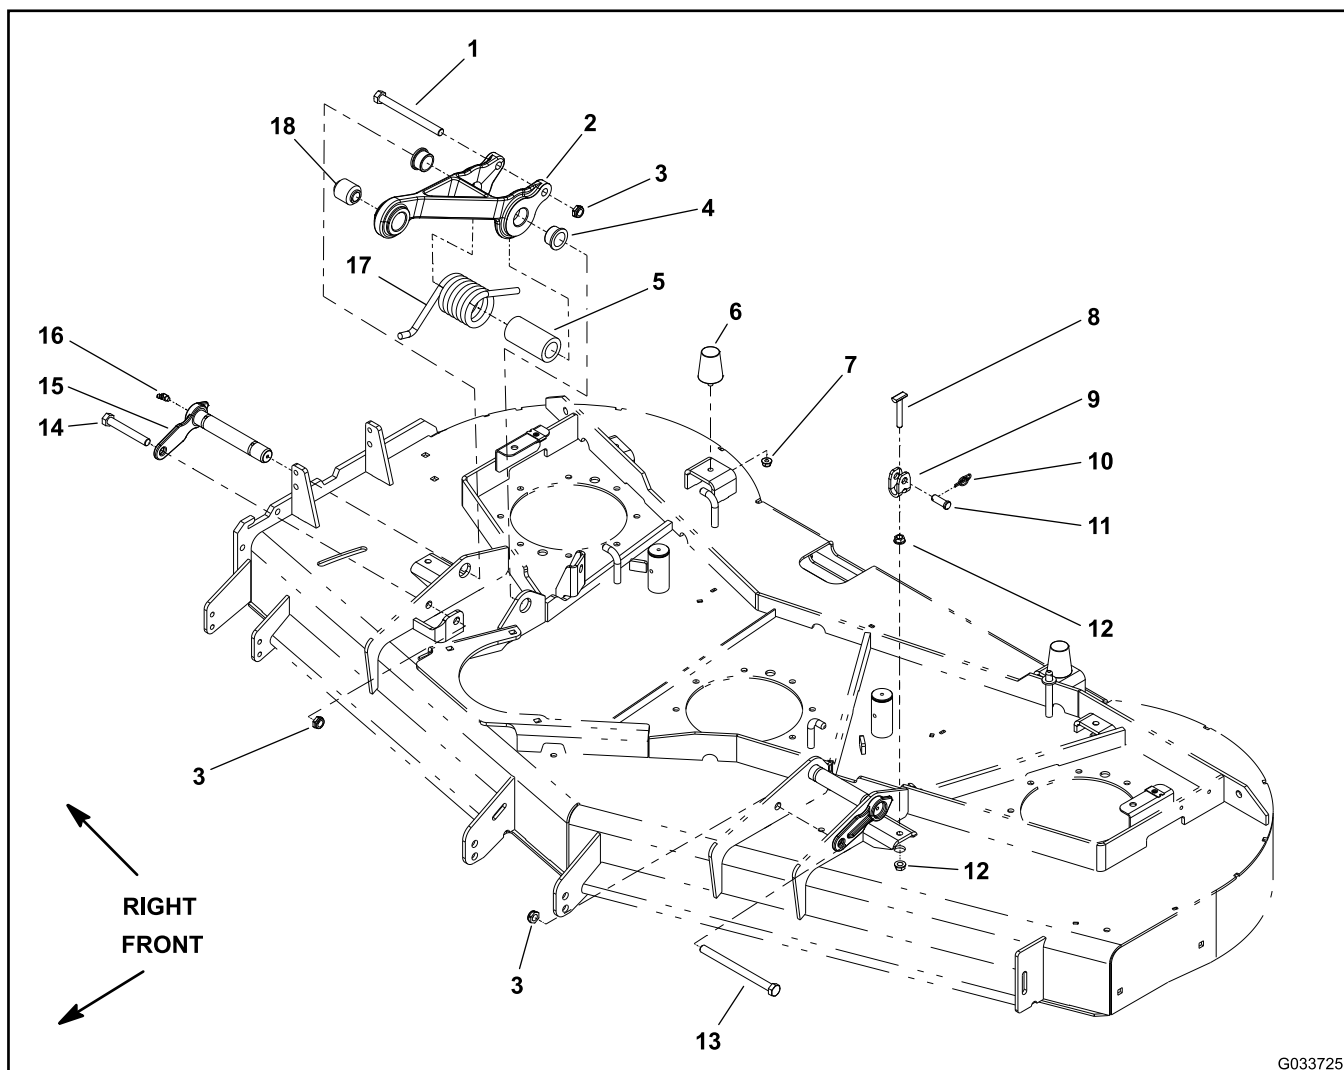

Figure 318
- A. Remove the flange nut (item 12 in Figure 318) that secures the clevis yoke to the deck.
3. Remove the bolt and locknut that secure the retainer pin (item 15 in Figure 318) to the deck.
4. Slide the retainer pin (item 15 in Figure 318) from the deck and pull link.
5. Remove the pull link with the torsion spring (item 17 in Figure 318) and plain spacer from the deck.
6. Inspect all the bushings (items 4 and 18 in Figure 318) in the pull link.
- Note:** For 62 inch cutting decks, the torsion spring (item 17 in Figure 318) is painted red. The torsion spring on 72 inch decks is painted black.
1. Place the plain spacer (item 5 in Figure 318) inside the torsion spring and then fit the spring and spacer into the pull link. Ensure that the torsion spring end is below the bolt (item 1 in Figure 318) in the pull link.
3. Slide the retainer pin (item 15 in Figure 318) through the cutting deck, pull link, and spacer.